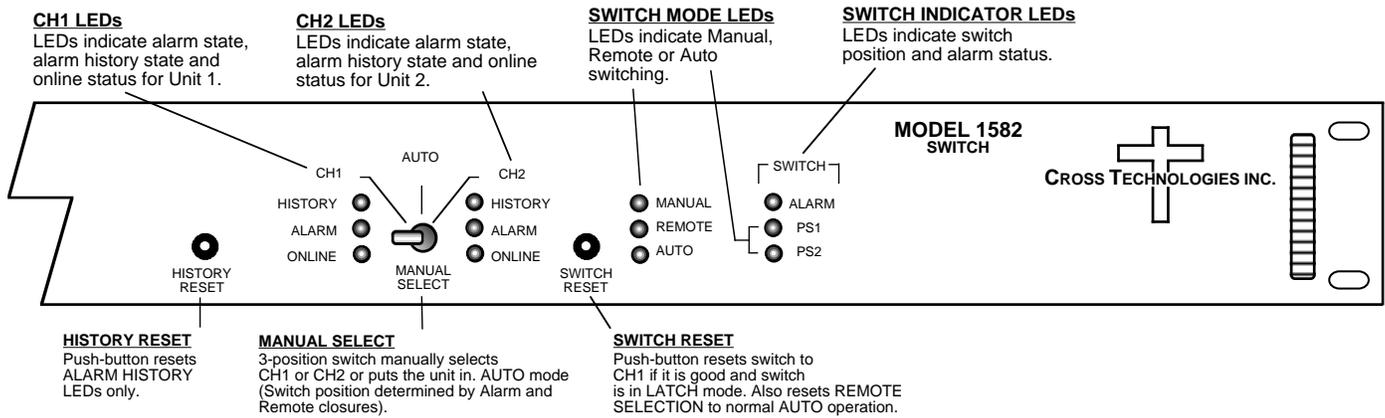

FIGURE 2.3 1582-122L Switch, Front Panel Controls and Indicators
Figure 2.3 shows the front panel controls and indicators.
1. Set the on board controls as desired (Tables 2.0, 2.1, Figure 2.3).